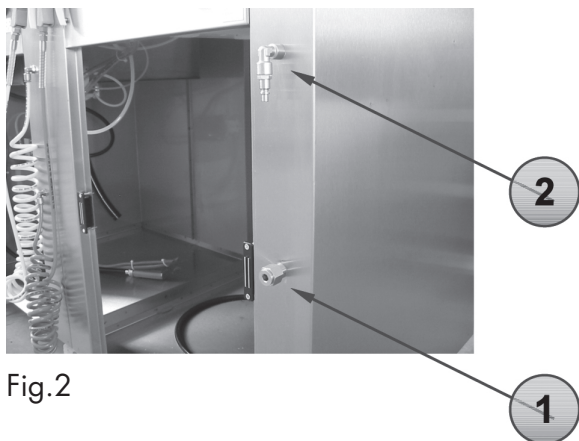

Fig. 2
2. Connect the machine's network air compressor attachment - Fig. 2 n. 2 - to the line of compressed air (max. 10 bar).